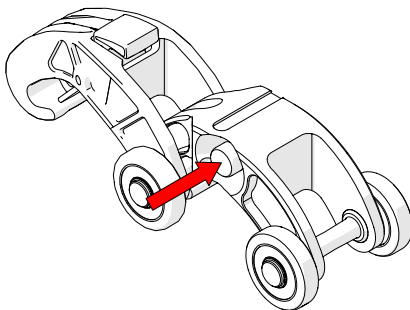

Fig. 99 - Press red button
1. Press the button on the side of the dovetail link (Fig. 99).